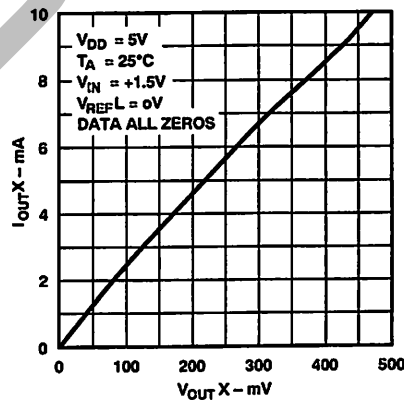

Figure 9. Zero-Scale Output Detail
**Operation Near ground** – The input stage of the internal buffer amplifier functions down to ground, but the output stage cannot pull lower than the internal ground voltage. When a DAC output tries to output a voltage at or below the internal ground potential, it saturates and appears like a 50  $\Omega$  resistor to ground. The typical saturation voltage appearing at the output is 20 mV, see Figure 9. The 100 mV worst case zero-scale voltage specification reflects this saturation effect, including the worst case anticipated variation of the internal ground resistances, quiescent currents and buffer sinking current. Linearity is measured between code  $8_{10}$  and code  $255_{10}$  to avoid this saturation effect. In summary, the transfer function of each DAC will be a straight line from code 8 to code 255 when  $V_{REF L} = 0$  V. For input codes 0 to 7, some DAC outputs will be saturated in the zero-scale output voltage region; therefore, changing digital code 0 to 1 may not change the output voltage when  $V_{REF L} = 0$  V.